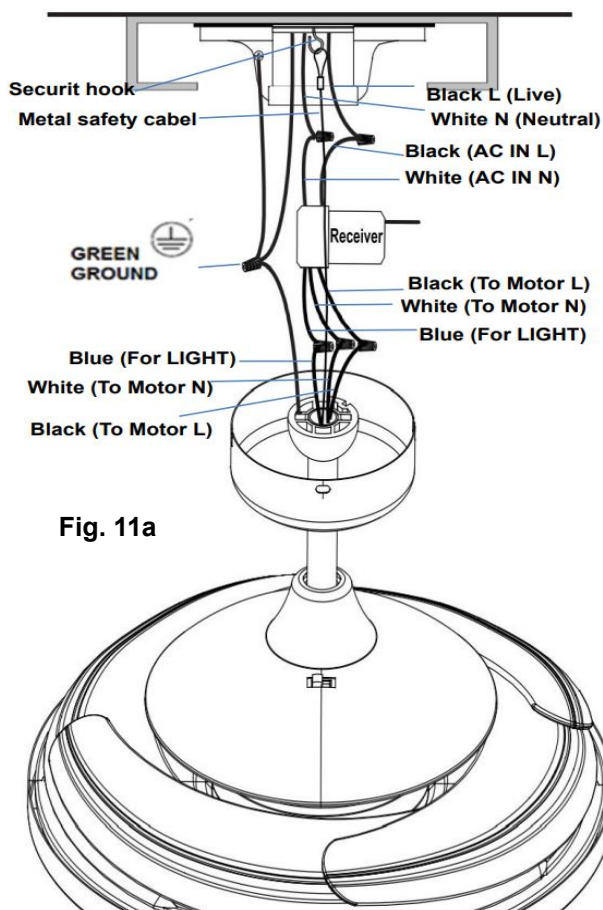

Fig. 11a
7. Pull the metal safety cable on the security hook, tight the safety cable (Fig.11a & Fig.11b)